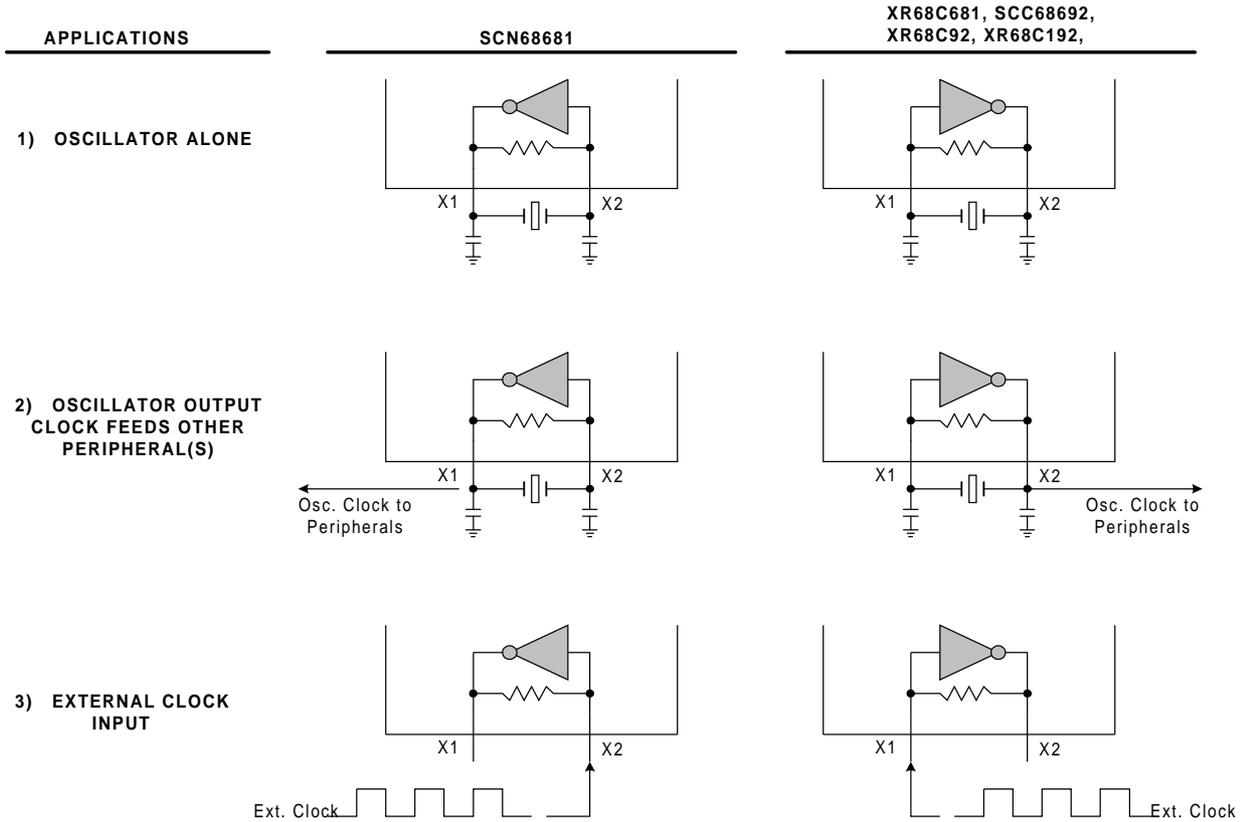

Figure 1. Oscillator Circuit Applications
2.3 The oscillator circuit on X1 and X2 pins is different and depending upon application environment it may or may not be compatible, refer to figure 1 on the next page. Figure 1 shows 3 applications that will need to be considered in the review process. The oscillator circuit and connection for SCN68681 is exhibited in the second column and the circuit for XR68C681 is shown under the third column. As it is illustrated, the internal inverter for the oscillator circuit is reversed. Hence, the XR68C681 is compatible under application #1 and should work fine. However, application #2 and #3 must be carefully reviewed by the designer.